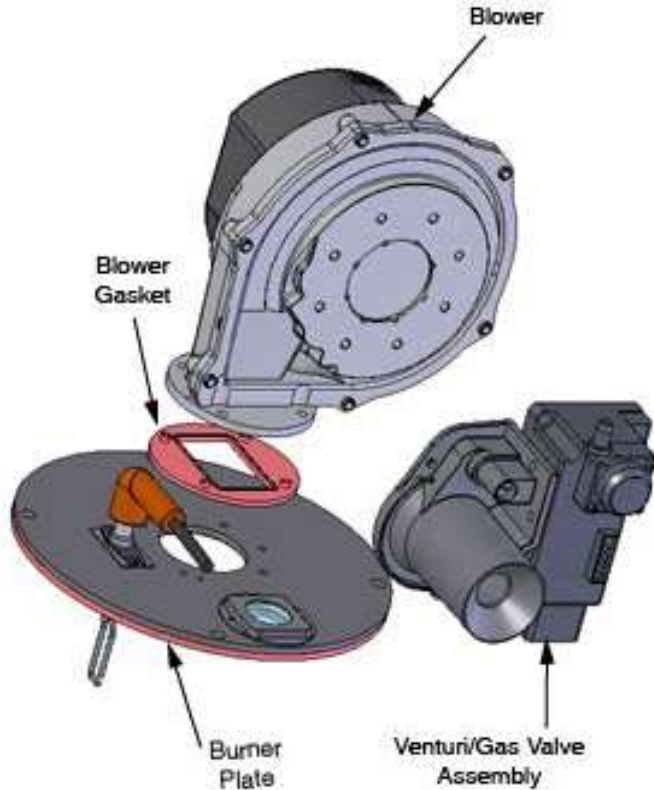

Fig. 3: Venturi/Gas Valve and Blower Assembly
10. Install the new blower gasket to the new blower housing and assemble to the burner plate using the (4) M4 x 12 screws included in the kit, see Fig. 3.